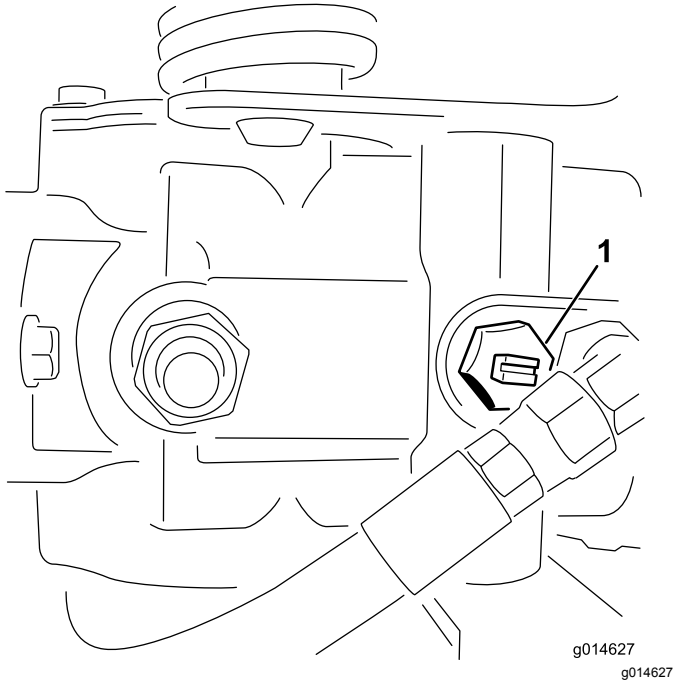

Figure 23
1. Locate the bypass valve on the pump and rotate it so that the slot is vertical (Figure 23).
2. Before starting the engine, close the bypass valve by rotating it so that the slot is horizontal (Figure 23). Do not start the engine when the valve is open.